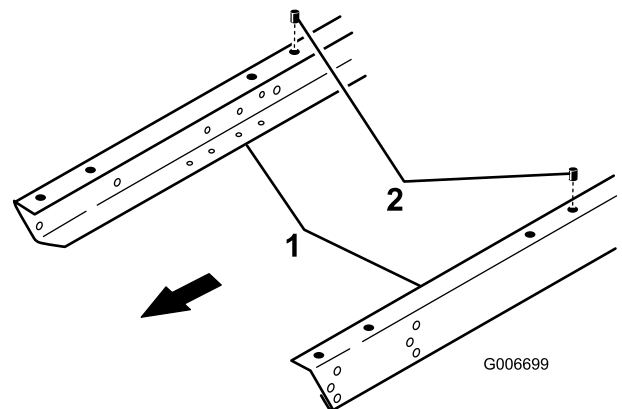

Figure 15
2. Locate and remove the threaded insert from the mounting hole in the left and right frame channels as shown in Figure 15.